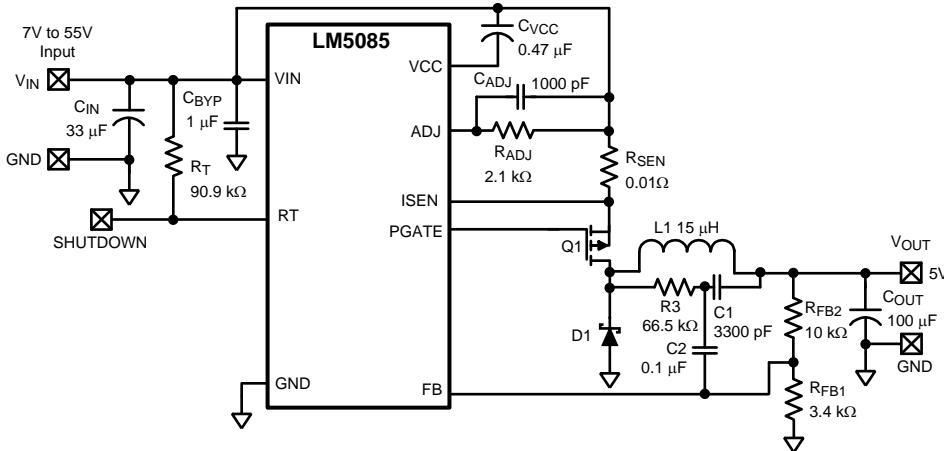
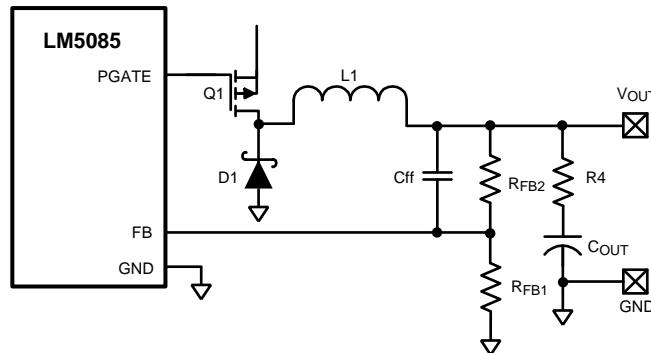

Figure 25. Example Circuit
Figure 27. Reduced Ripple Configuration
The final circuit is shown in Figure 25, and its performance is presented in Figure 29 through Figure 32.
The minimum ripple configuration employing C1, C2, and R3 in Figure 25 results in a low ripple amplitude at V_{OUT} determined mainly by the characteristics of the output capacitor and the ripple current in L1. This configuration allows multiple ceramic capacitors to be used for V_{OUT} if the output voltage is provided to several places on the PC board. However, if a slightly higher level of ripple at V_{OUT} is acceptable in the application, and distributed capacitance is not used, the ripple required for the FB comparator pin can be generated with fewer external components using the circuits shown below.
a) Reduced ripple configuration: In Figure 27, R3, C1 and C2 are removed (compared to Figure 25). A low value resistor (R4) is added in series with C_{OUT}, and a capacitor (Cff) is added across R_{FB2}. Ripple is generated at V_{OUT} by the inductor ripple current flowing through R4, and that ripple voltage is passed to the FB pin via Cff. The ripple at V_{OUT} can be set as low as 25 mVp-p since it is not attenuated by R_{FB2} and R_{FB1}. The minimum value for R4 is calculated from:
b) Lowest cost configuration: This configuration, shown in Figure 28, is the same as Figure 27 except C_{ff} is removed. Since the ripple voltage at V_{OUT} is attenuated by R_{FB2} and R_{FB1} , the minimum ripple required at V_{OUT} is equal to:
(Circuit of Figure 25)**